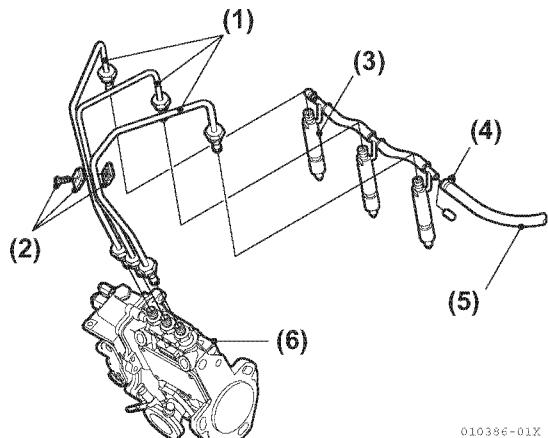

Figure 6-8
2. Disconnect the hose from the fuel return line (**Figure 6-8, (5)**).